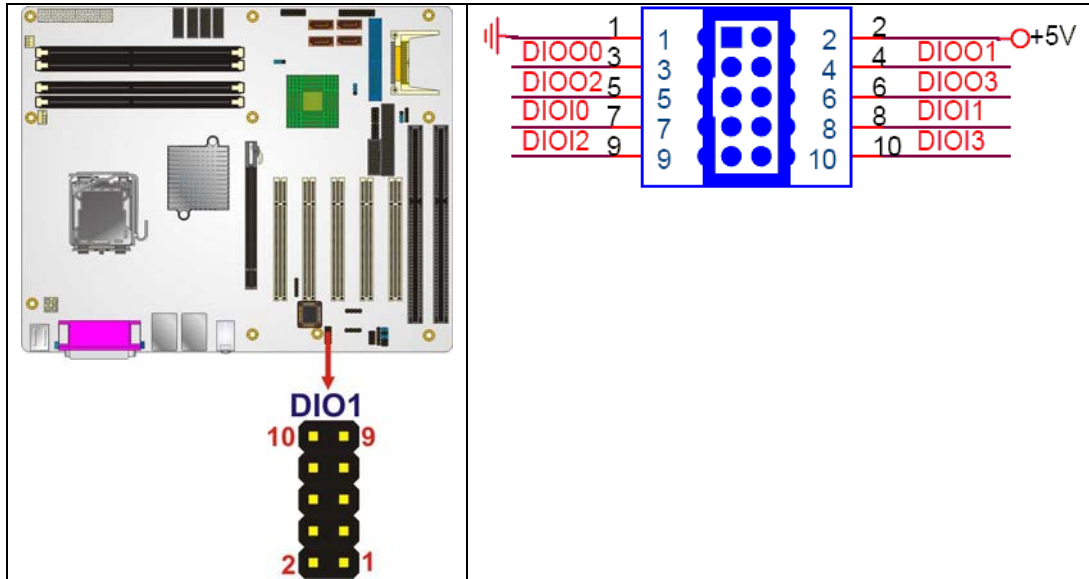

Figure 4-8: DIO Connector Connector Locations
- CN Location:** See Figure 4-8